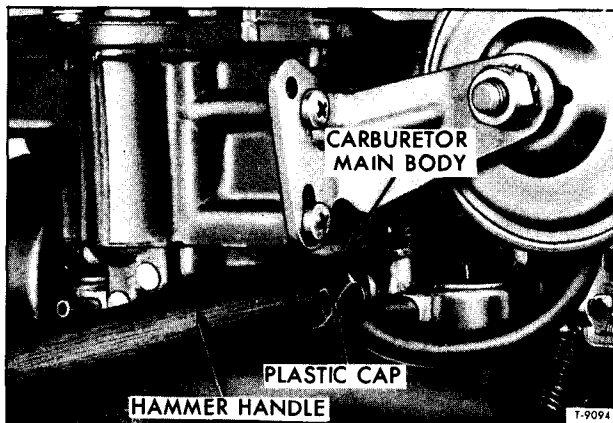

Figure 4—Installing Plastic Caps (WWC Series)
(Refer to Figure 4)
6. With the aid of a hammer handle or other suitable driving tool install plastic caps on each idle mixture screw as shown in figure 4. Each plastic cap is to be installed in fuel RICH position (as shown). Tang on cap should contact main body of carburetor. Use care when installing caps to prevent bending of idle mixture screws.